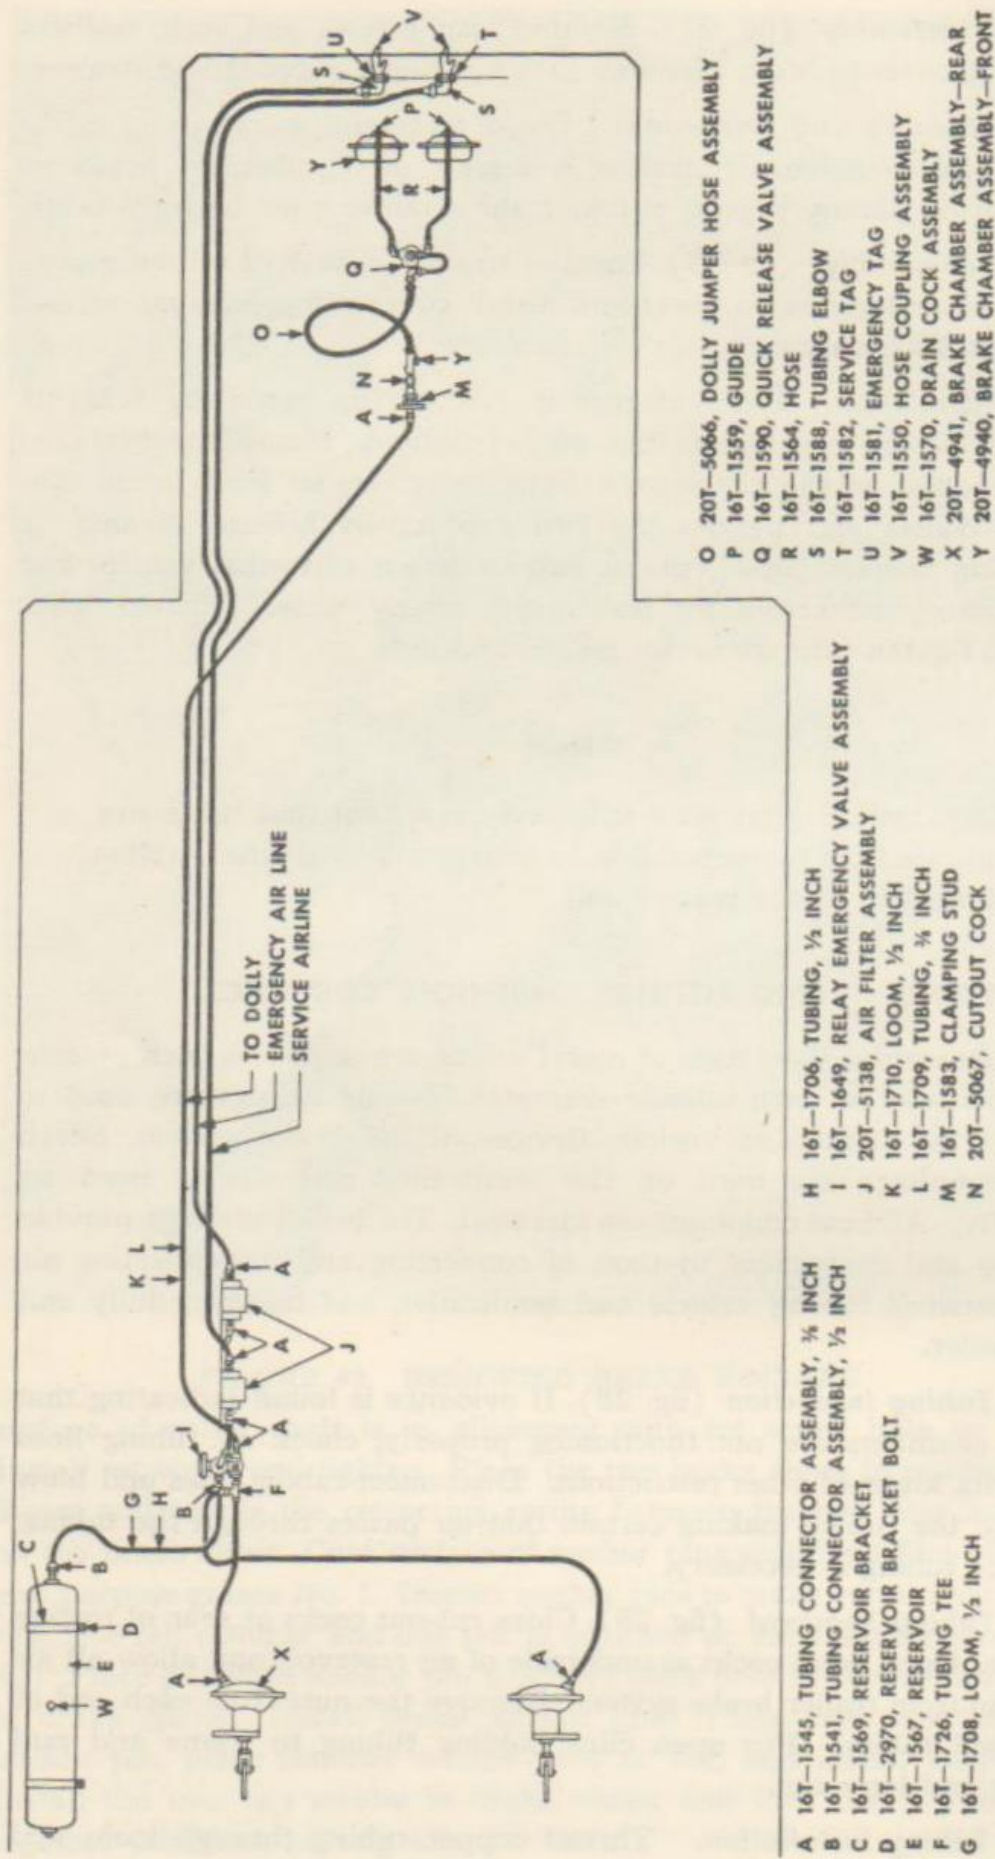

FIGURE 28. BRAKE SYSTEM DIAGRAM
b. Tubing Inspection (fig. 28). If evidence is found indicating that brake chambers are not functioning properly, check all tubing lines for dents, kinks or other restrictions. Disconnect tubing lines and blow through the tubing making certain that air passes through the tubing. Replace tubing if necessary.
c. Tubing Removal (fig. 28). Close cut-out cocks at rear of towing vehicle. Open drain cocks at underside of air reservoir and allow all air to drain from trailer brake system. Remove the nuts from each end of damaged tubing. Pry open clips holding tubing to frame and pull tubing and loom out.